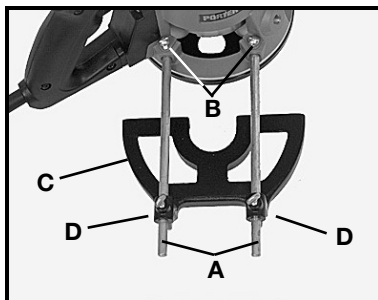

Fig. 10
To attach, insert the guide rods (A) Fig. 10 in holes in the base, and secure it with screws (B). The guide (C) is adjusted on the rods and secured in position with thumb screws (D).